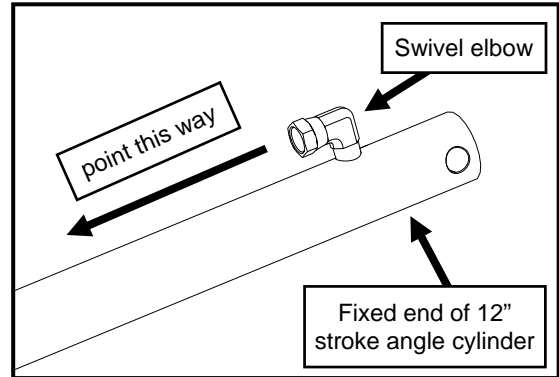

Fig. 5.1—Cylinder Fitting
**5.1** Apply thread sealer to the male threaded ends of two NPT 1/4" male x 1/4" female 90° swivel elbows and thread into port on angle cylinder. Make sure the elbows point towards the ram end of both cylinders. See Fig. 5.1.